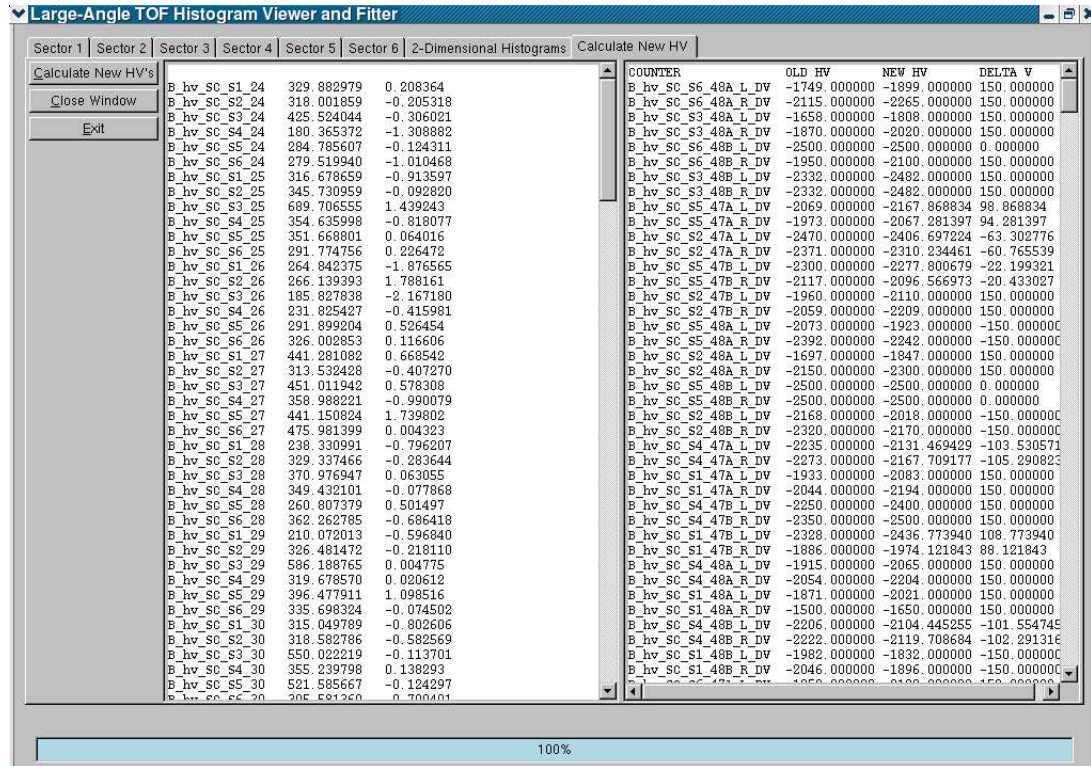

Figure 3: Histogram fitting, diagnostic and HV calculation window of toffHvgui
- To calculate new voltages, click on the **Calculate New HV** tab in the histogram window and click **Calculate New HV** (see Fig. 3). When prompted for the input BURT file, make sure this file was the one used to take the cosmic data.